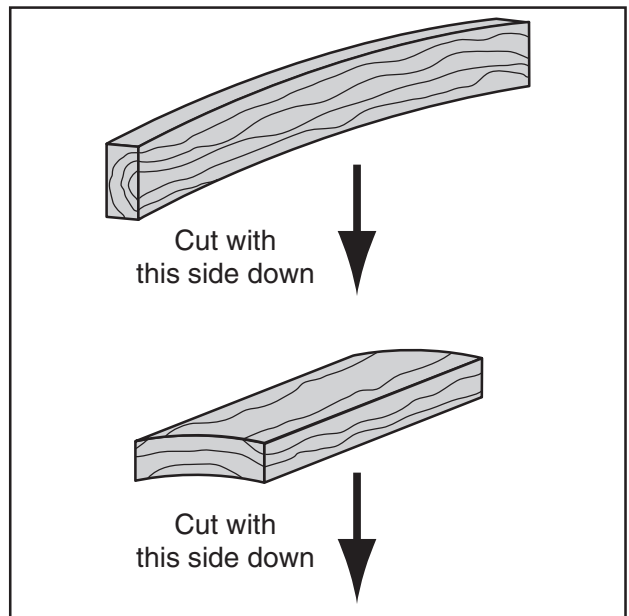

Figure 56. Cutting wood with minor warping.
- **Minor Warping:** Workpieces with slight cupping can be safely supported if the cupped side faces the table or fence, as shown in **Figure 56**. On the contrary, a workpiece supported on the bowed side will rock during a cut, leading to loss of control.